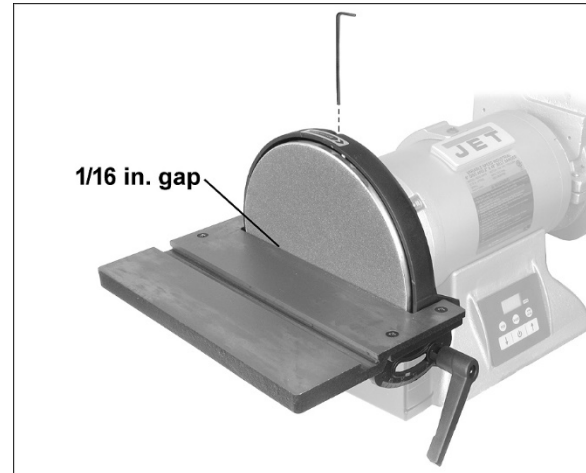

Figure 6-4: disc table
Install disc table with two handles and flat washers (see Figure 6-4). Loosen handles to tilt table downward. Tighten handles before operating.
2. Insert provided 3mm hex wrench through hole to loosen set screw. See Figure 6-4.